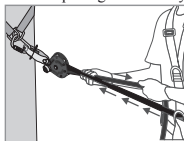
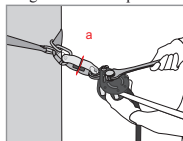

Fig 3
Fig 4
Once the lifeline is installed, a pre-adjustment of the tension must be made by pulling manually on the rope (knot end side — Fig. 3). Automatically, the cam (8) and the cam lever (4) must come into contact with the rope. Close the cam lever (4), then, using an appropriate wrench, apply tension on the tension adjustment bolt (1) until the tension indicator washer (a) placed on the tension indicator (2) turns freely (Fig. 4). Once this washer moves freely, **STOP TIGHTENING!** This corresponds to a pre-tensioning on the line of approximately 1 kN. During use, regularly check this tension (rotation of the tension indicator washer) and adjust if necessary, as explained above.